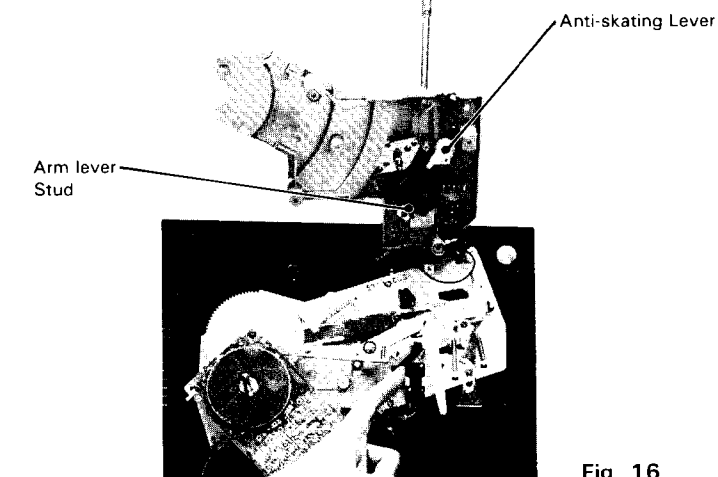
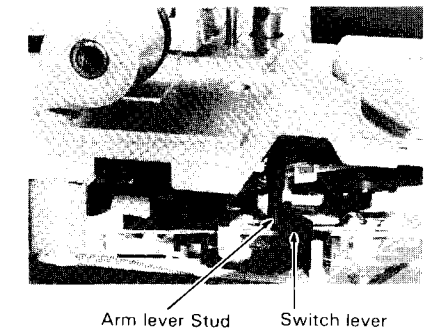

Fig. 16
Fig. 17
1. Push the switch lever by top of the finger as shown in Fig. 16, then mount the pickup base ass'y. So that, the stud of the arm lever is located as shown in Fig. 17.